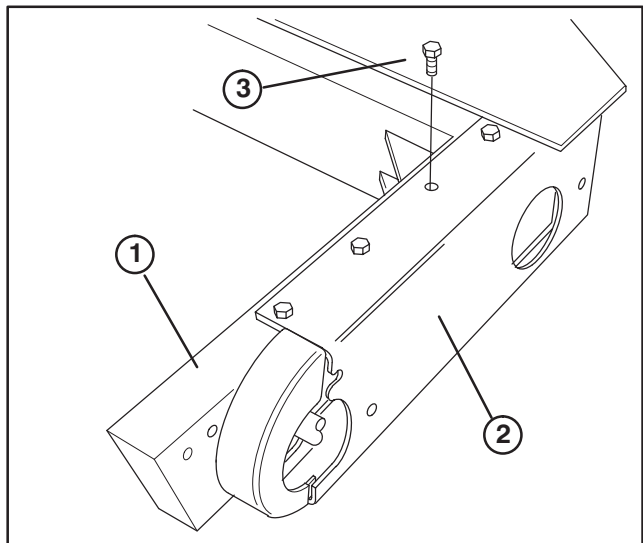

Figure 2
1. On each side of machine, remove third capscrew from the rear, securing top of chassis guard to side rail (Fig. 2).